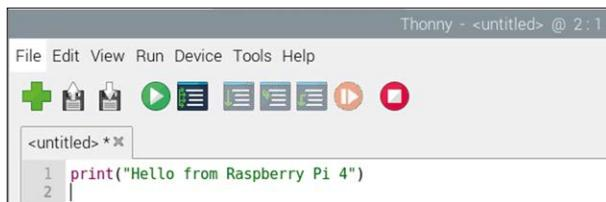

Figure 5.9: Type your program.
- Type your program in the upper part as shown in Figure 5.9.
Thonny provides the option of debugging a program, where we can single-step through a program and see the variables as the program is stepped through. As an example, let's debug the program given in Figure 5.9. The steps are: